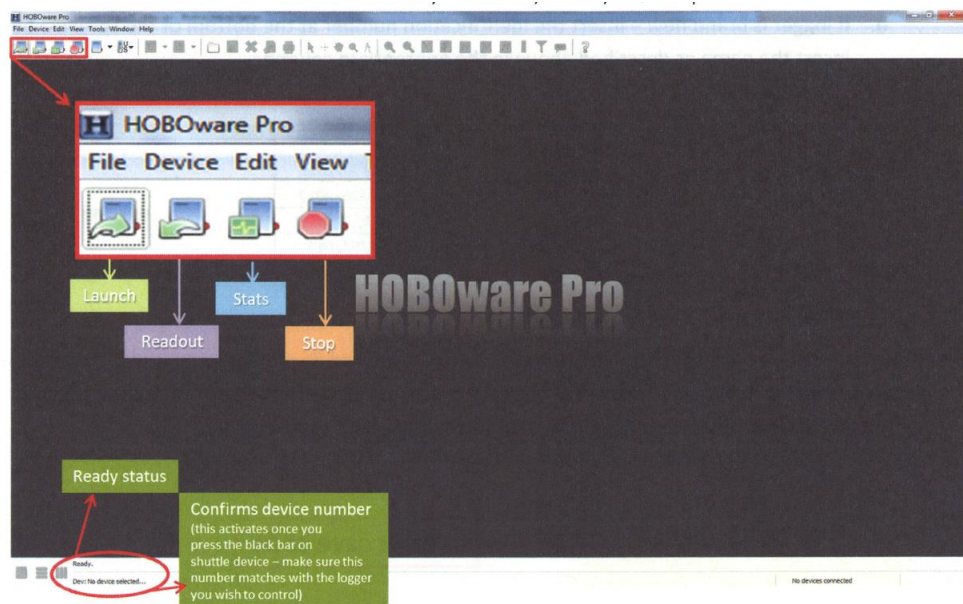

Figure 5-3. Main screen of the HOBOWare Pro software application, showing the 4 most useful icons and some added notation.
2. Launch logger using HOBOWare Pro from the start menu on your computer. Figure 5-3 is the main screen with the 4 most useful icons: “Launch,” “Readout,” “Stats,” and “Stop.”